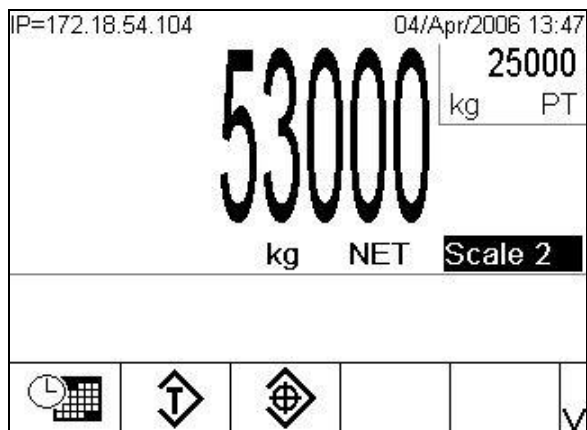

Figure C-13: Preset Tare Showing
2. Press the TARE MEMORY softkey  to recall the ID record entered. The stored tare value is recalled from the Tare Table and is used as the preset tare (PT) value. If a value stored in the tare table doesn't match the current display units, it is automatically converted when recalled. The tare displays, as shown in Figure C-13.